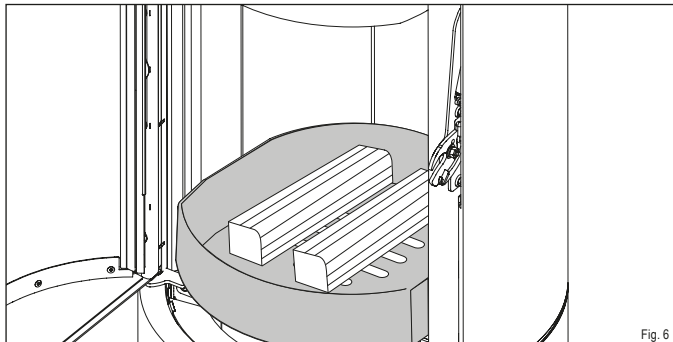

Fig. 6
- ▶ Add two logs (4) with a total weight of 1.4 kg in the middle of the firebox (face forward).
- ▶ Keep approx. 5 cm from the firebox glass (Fig. 6).